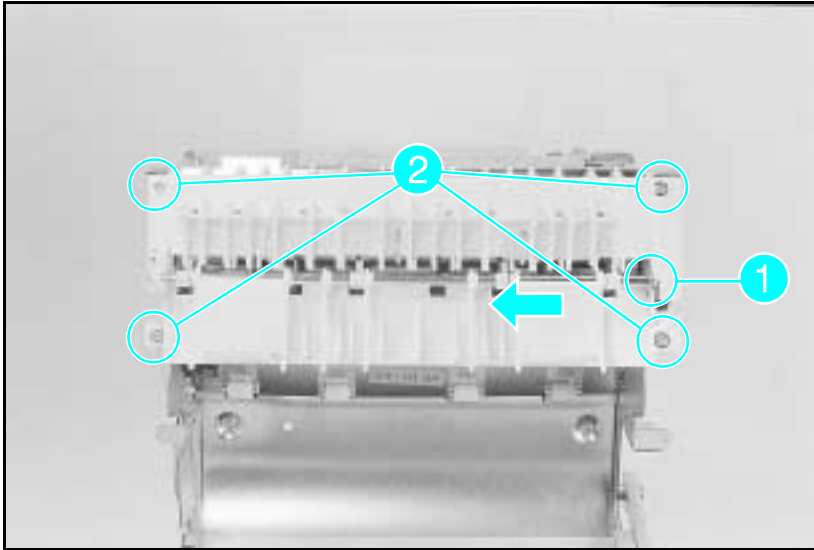

Figure A-11 Switchback Paper Guide
- 1** Remove the (1) E-clip from the shaft on the stepper motor side shown in Figure A-11, callout 1.
- 1 Remove the (4) screws shown in Figure A-11, callout 2.